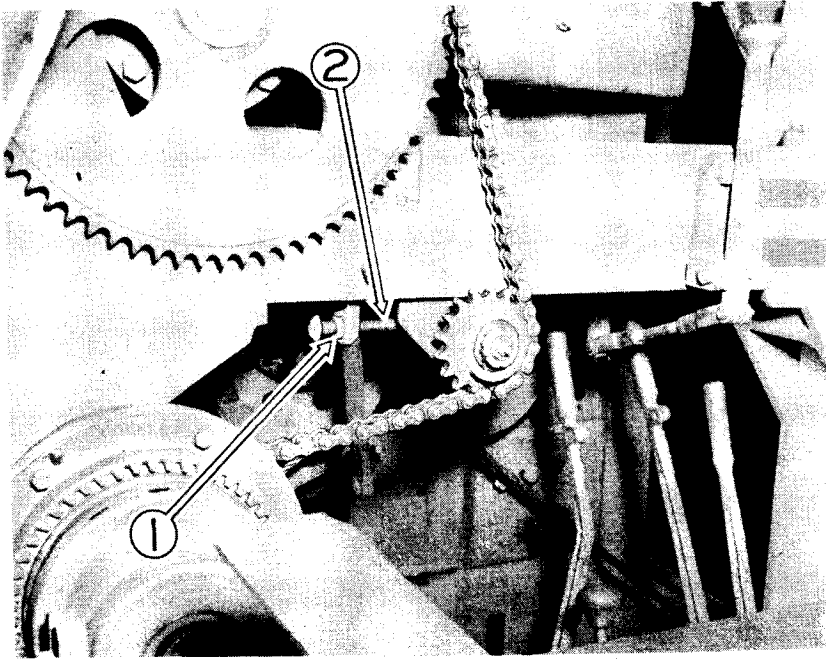

Figure 42 Revolving Drive Chain Idler
Figure 42 illustrates the mast gear or revolving drive chain after the shield has been removed. It is not necessary to remove the shield to tighten the drive chain. Loosen the locknut (1) and turn the adjustment bolt (2) to place the sprocket in a desirable position. Reset the locknut (1).